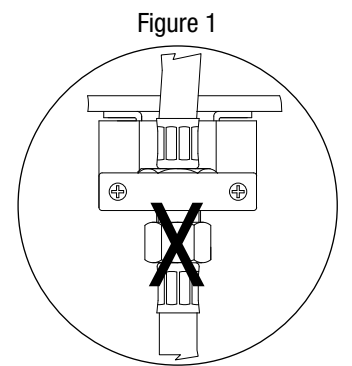

Figure 1
4. Spoon leak check solution at all "X" locations. (Figures 1 and 2)